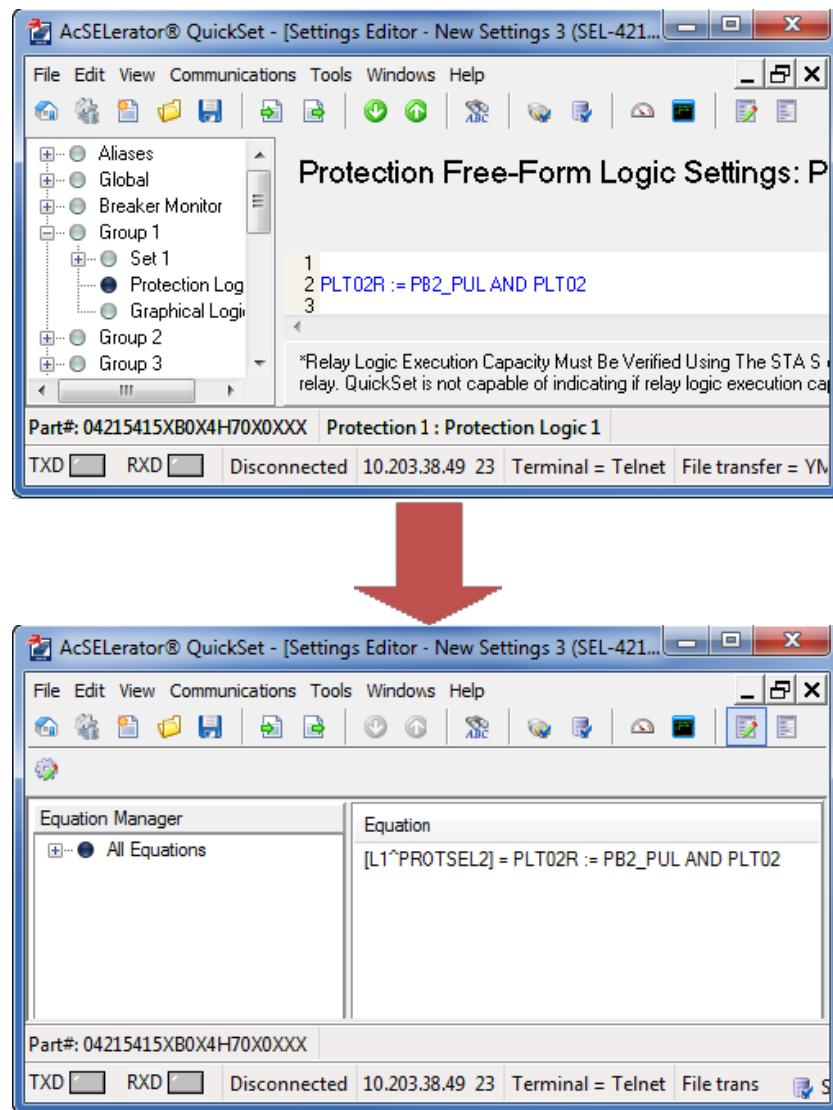

Figure 6.12 Use the ":"=:" Operator in the Equation Builder to Create Freeform Logic
- ▶ The "":=" freeform logic operator is available. Use this operator when dealing with freeform logic (only available in certain device types). *Figure 6.12* shows an example of an SEL-421 freeform logic screen and how this same assignment can be created in the **Equation Builder**.